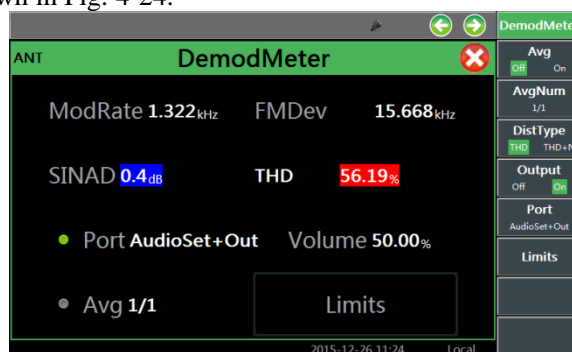

Fig. 4-24 Call Window Display
- Window opening: four windows, i.e. RF source, modulation source, demodulation meter and receiver setting, will pop up automatically if the [Call] hard key is pressed. The demodulation meter window can be maximized by pressing the [Full Screen] hard key in the lower part of the screen, as shown in Fig. 4-24.